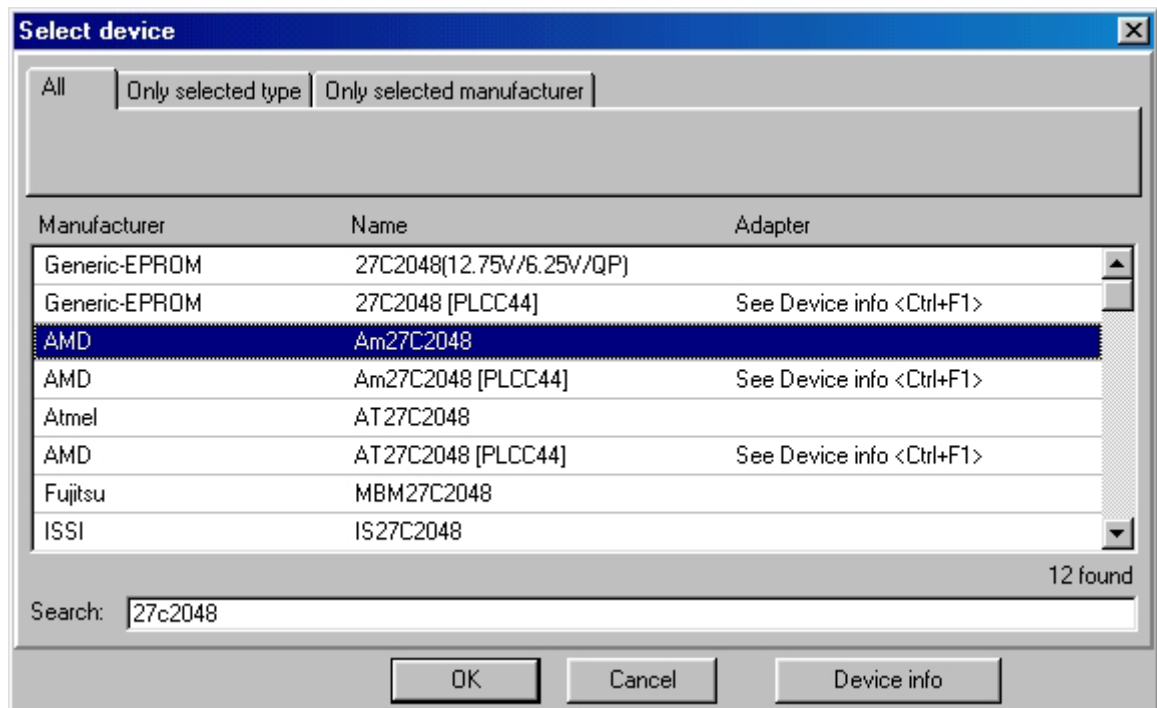

FIGURE 12: DEVICE REQUESTER
- Select the device You want to program, either through the Device/Select menu or the keyboard shortcut <Alt+F5> (press key <F5> while keeping Alt key pressed). A requester like in figure 12 appears: